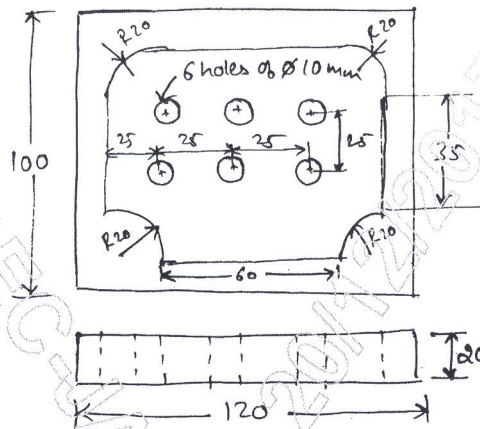

Fig Q7(b)
b. Write the part program for the sketch given below Fig Q7(b)